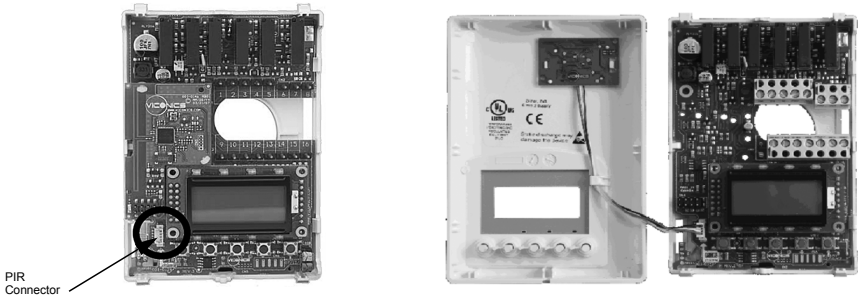

Fig. 4. PIR connector
3. Insert polarized connector from new cover into PIR female connector located on thermostat base. (Fig. 4)